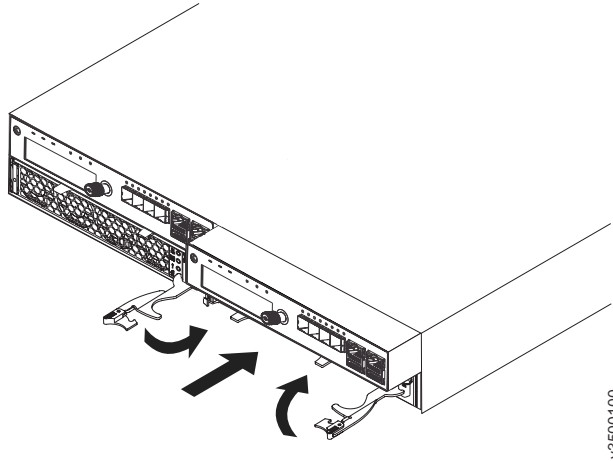

Figure 23. Installing a node canister
2. Turn the canister over and install it in the control enclosure as shown in Figure 23.